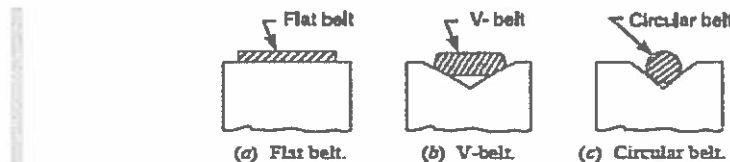

Fig. 11.1. Types of belts.
1. *Flat belt.* The flat belt, as shown in Fig. 11.1 (a), is mostly used in the factories and workshops, where a moderate amount of power is to be transmitted, from one pulley to another when the two pulleys are not more than 8 metres apart.
2. *V-belt.* The V-belt, as shown in Fig. 11.1 (b), is mostly used in the factories and workshops, where a moderate amount of power is to be transmitted, from one pulley to another, when the two pulleys are very near to each other.
3. *Circular belt or rope.* The circular belt or rope, as shown in Fig. 11.1 (c), is mostly used in the factories and workshops, where a great amount of power is to be transmitted, from one pulley to another, when the two pulleys are more than 8 metres apart.